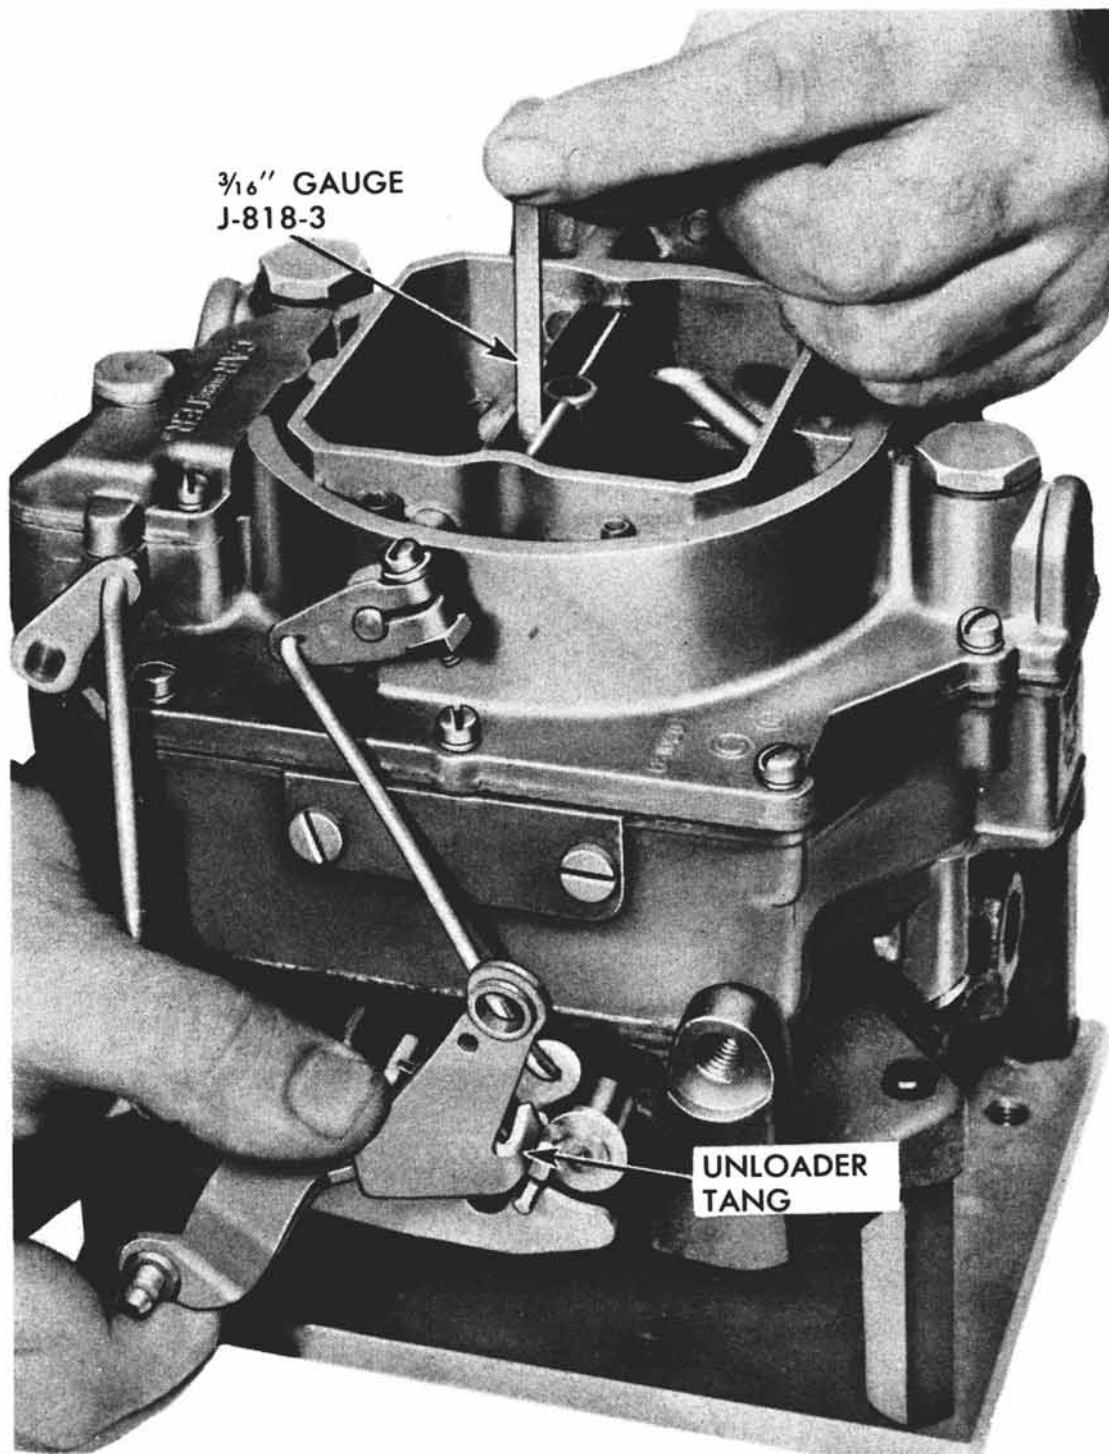

Fig. 17-C Unloader Adjustment
1. Move the throttle linkage until the throttle valves are wide open as shown in Fig. 17-C.
3. Bend unloader tang (Fig. 17-C) as required with bending tool J-1137 to achieve this adjustment.